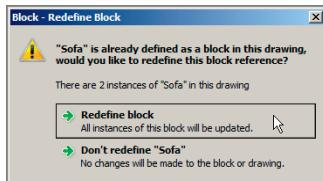

FIGURE 9.12 You are asked whether you want to redefine a block before it is done.
6. Click the Browse button in the Insert dialog box. Select the **Sofa.dwg** file you saved in step 2. Click OK in the Insert dialog box, and the Block – Redefine Block dialog box appears (see Figure 9.12). Notice that it says that there are two **Sofa** block references in the drawing. These are two sofas in Reception. Click **Redefine Block**.